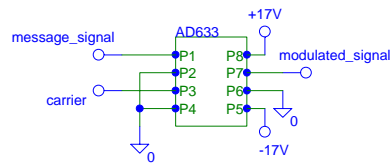

Fig. 1 DSB Modulator
1. Keeping the power supply off, assemble the circuit of Fig. 1. Use FG1 as the message signal and FG2 as the carrier signal. Set the following parameters in FG1: Amplitude=5 V, Frequency=500 Hz, sine wave. For FG2: Amplitude=10 V, Frequency=9 kHz, sine wave. Connect channel 1 probe of the oscilloscope to the output of the modulator (at pin 7).